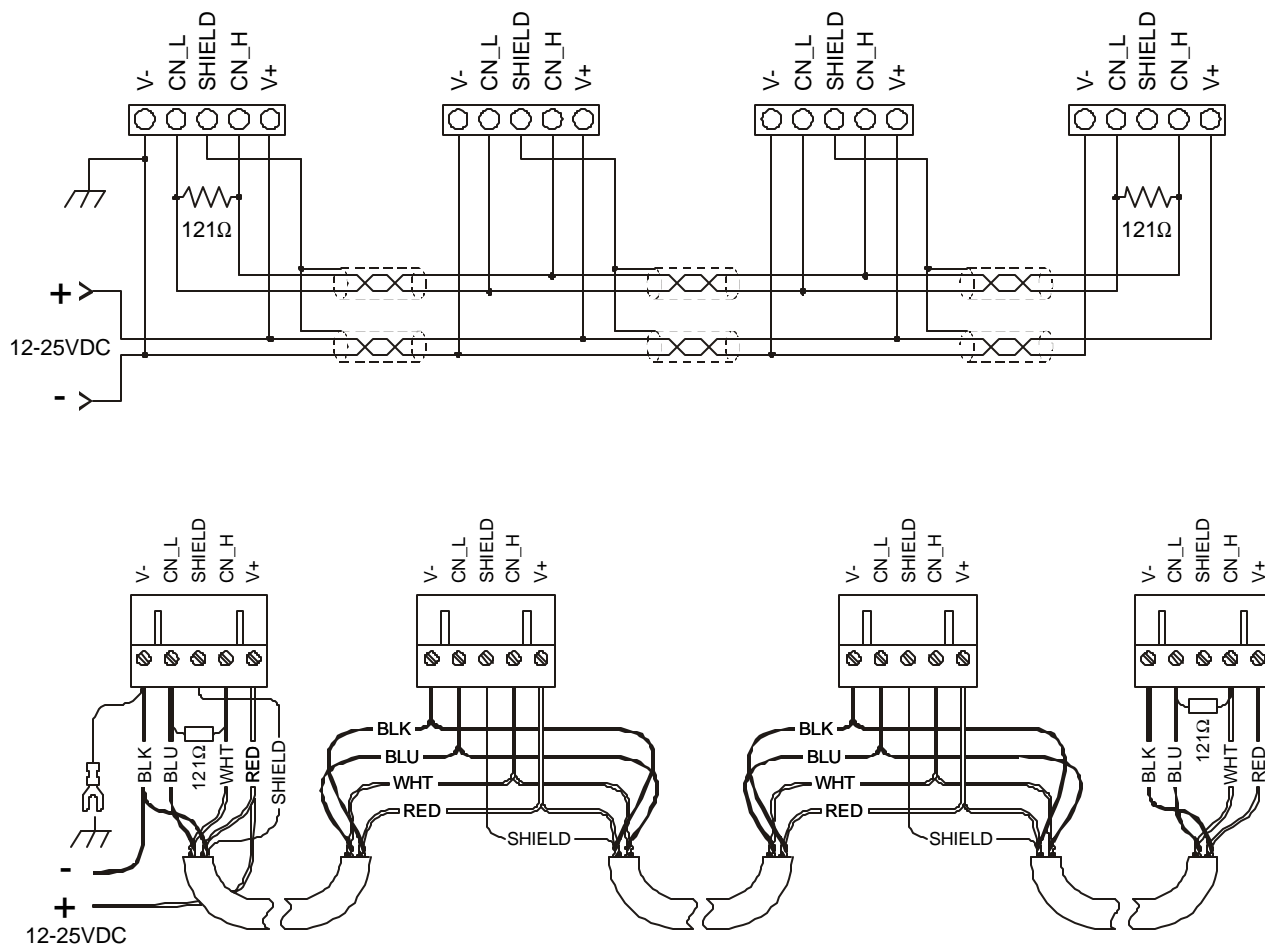

Figure 2.8 – CAN Wiring
CAN Wiring Rules (See Figure 2.8.)
4. To ground the cable shield, connect to pin 3 as shown in Figure 2.8.